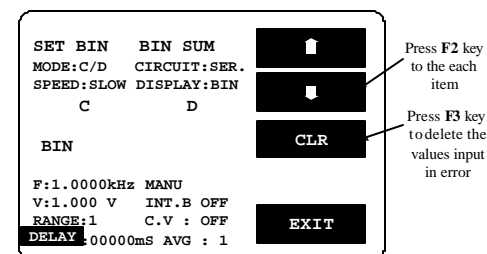

Figure 8-12
- Press  $\Delta$  key. Please refer to Figure 8-12 below.